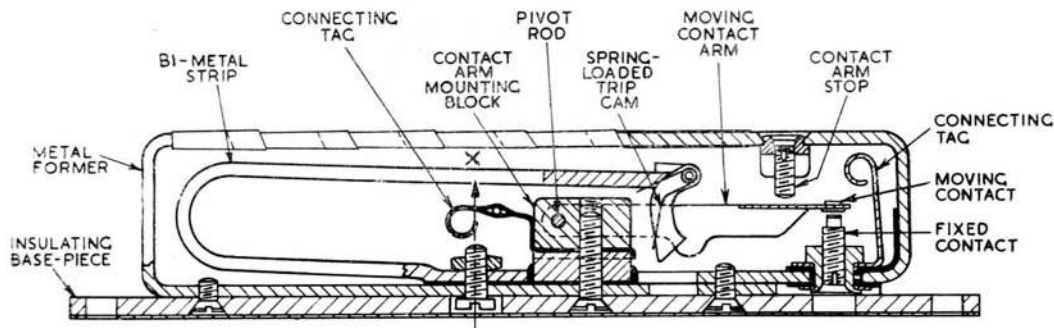

Fig. 2. Details of thermostatic switch
7. It is emphasized that when handling this switch, care must be taken to avoid putting any thrust on the bi-metal which may tend to displace it sideways. The very small force required to actuate the switch should be applied vertically at the point X shown in fig. 2, i.e., directly above the bi-metal fixing screw.